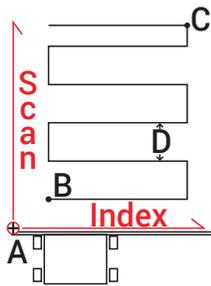
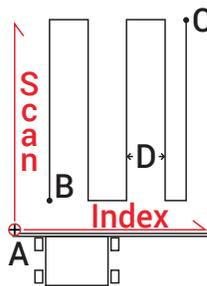

Fig. 126 - Horizontal
Fig. 127 - Vertical
- 4** Path Button A toggle between a horizontal (Fig. 126) or vertical (Fig. 127) scan path.